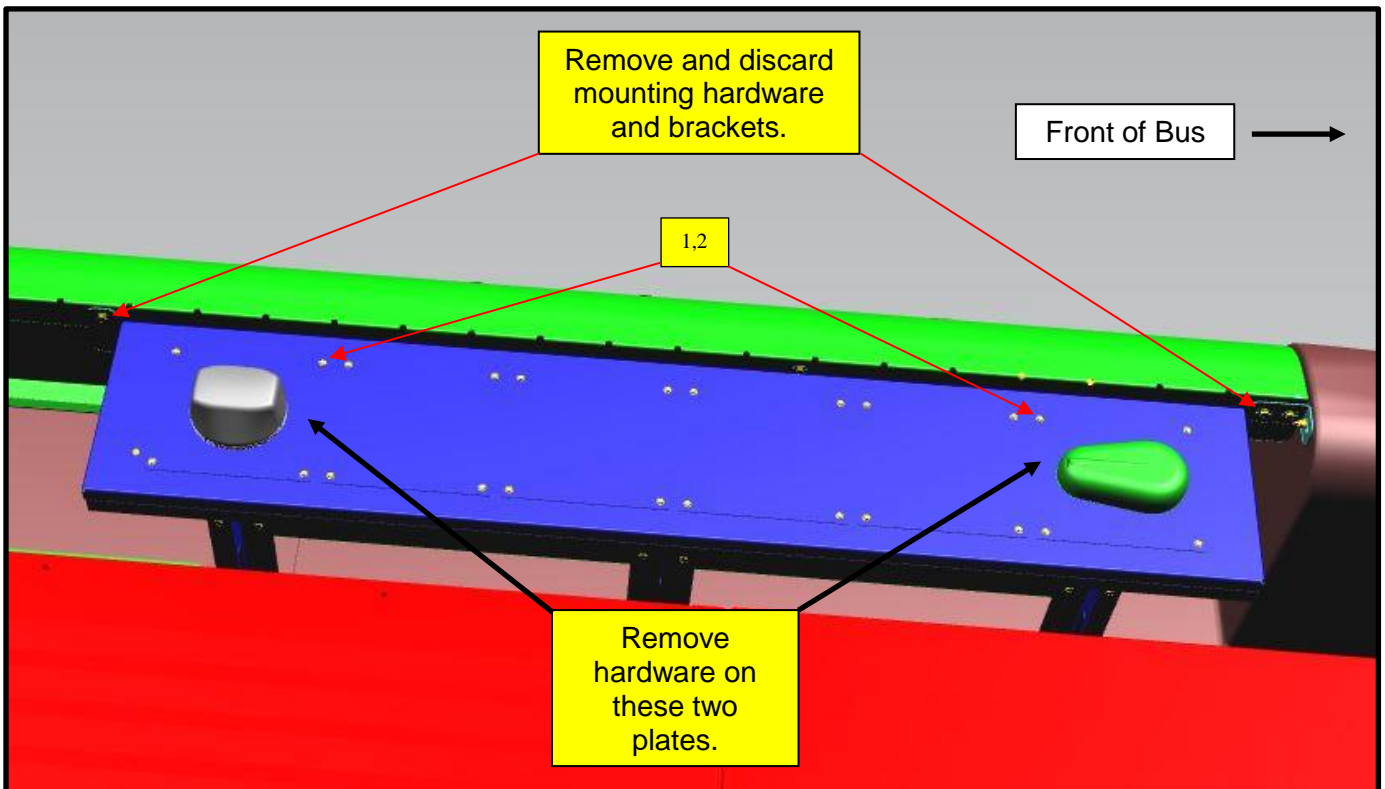

Figure 1: Antenna pedestal location
2. On the roof of the bus, locate the street side antenna pedestal and remove and retaining hardware Items #1 Screws and #2 Washers on the two antenna plates on either end of the pedestal. See Figure 1
4. On both ends of the antenna pedestal remove and discard the existing mounting brackets and hardware. See Figure 1.